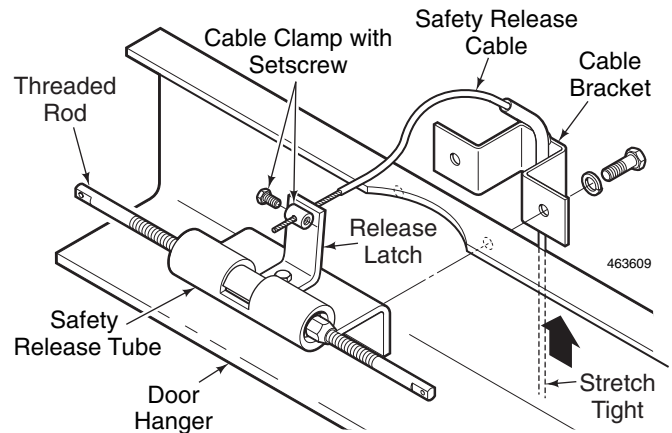

Figure 18
1. Align the threaded holes in Safety Release Tube and the holes in the Cable Bracket with the pre-drilled holes in the Door Hanger channel. Fasten both securely to the channel with the cap-screws and lockwashers supplied. See *Figure 18*.